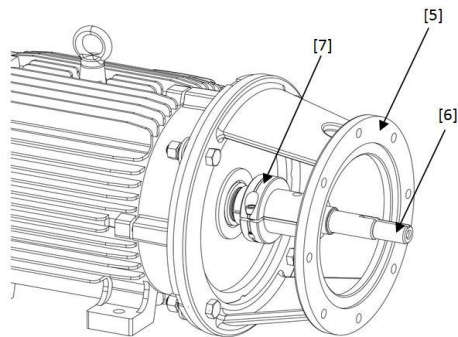

Figure 1: Step 2 Illustration
- 2) Attach the stub shaft [6] and locking collar [7] to the motor and the motor adapter [5] as shown in Figure 1.